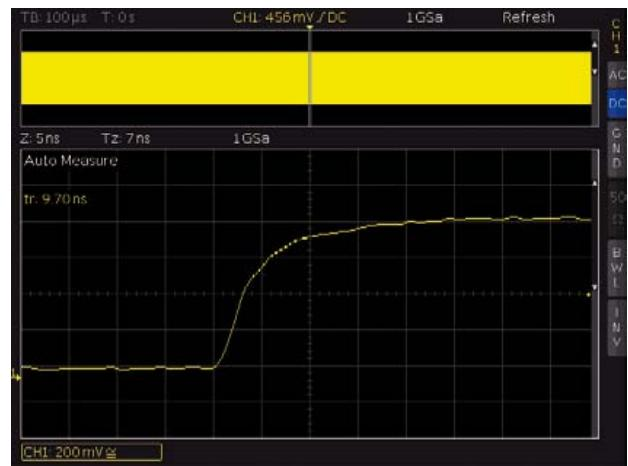

Figure 2. Fast signal changes (<10 ns) can be resolved with a one million point acquisition memory and a recording time of 1 ms.
i.e. one million memory points (see **Figure 2**).